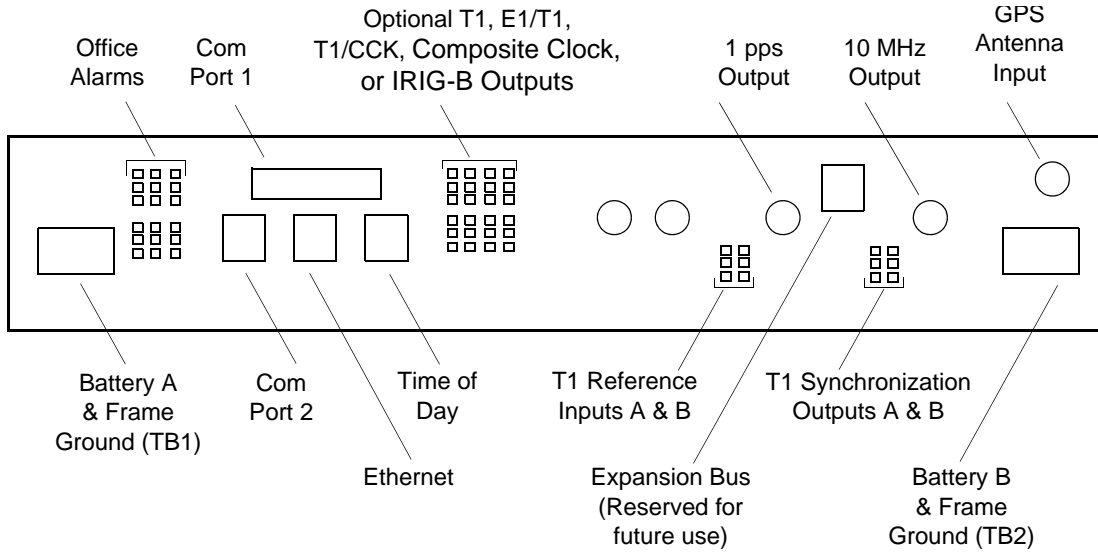
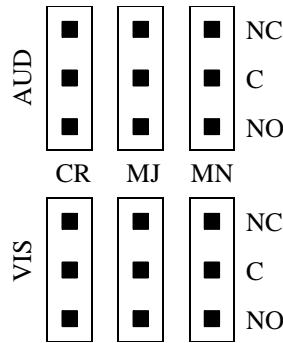
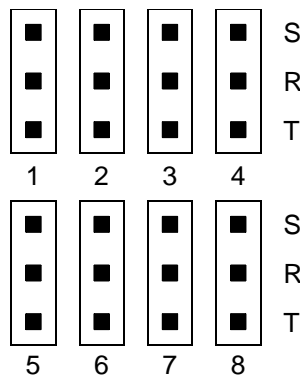
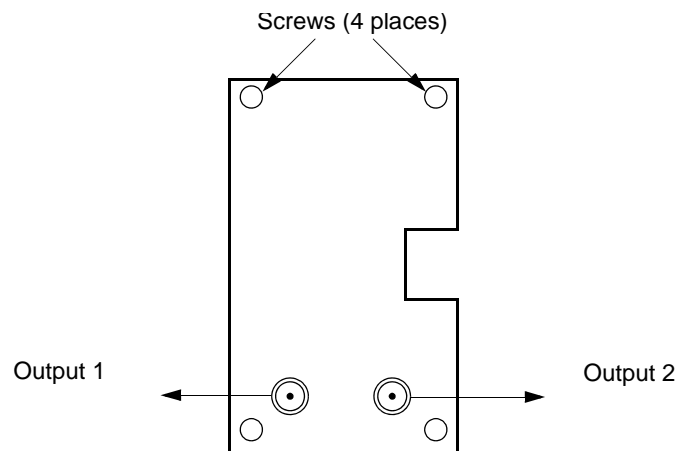

Figure 3-17. Rear Panel
Figure 3-20. Alarm connections
Figure 3-21. OPTIONS I/O Wire-Wrap Pin Connections
Figure 3-22. IRIG-B TOD BNC Output Connections
Figure 3-17 shows the rear panel connectors. Figure 3-18 shows the front panel connector. All connectors can be located using these illustrations.
Frame ground connections are made on power terminal blocks TB1 and TB2. Refer to Figure 3-17 for the location of the terminals on the rear of the shelf, and refer to Figure 3-19 for the terminal connections.
Power connections are made on power terminal blocks TB1 and TB2. Refer to Figure 3-17 for the location of the terminals on the rear of the shelf, and refer to Figure 3-19 for the terminal connections.
Connect the TimeSource 3500 alarms to the office alarm panel at the critical (CR), major (MJ), and minor (MN) wire-wrap pins. See Figure 3-17 for the location of the alarm pins, and Figure 3-20 for the connections.
Use the supplied 90 degree adapter to connect the coaxial cable from the lightning suppressor or IF downconverter to the TNC connector labeled GPS ANT. Refer to Figure 3-17 for the connector location.
Connect up to eight optional T1 outputs at the OPTIONS I/O wire-wrap pins. See Figure 3-17 for the connector location, and Figure 3-21 for the connections.
Connect up to eight optional mixed E1/T1 outputs at the OPTIONS I/O wire-wrap pins. Refer to Figure 3-17 for the connector location and Figure 3-21 for the connections.
Connect up to eight optional mixed T1/CCK outputs at the OPTIONS I/O wire-wrap pins. Refer to Figure 3-17 for the connector location and Figure 3-21 for the connections.
Connect up to eight optional composite clock outputs at the OPTIONS I/O wire-wrap pins. Refer to Figure 3-17 for the connector location and Figure 3-21 for the connections.
Connect one or two optional IRIG-B TOD outputs at the OPTIONS I/O wire-wrap pins. See Figure 3-17 for the connector locations, and Figure 3-22 for the connections.
2. Secure the adapter onto the shelf, using the four screws integral to the adapter (see Figure 3-22).
Connect a user-supplied RG-58 coaxial cable from the connector labeled TTL PPS to the equipment that will use the 1 pulse-per-second TTL output signal. See Figure 3-17 for the connector location.
Connect a user-supplied RG-58 coaxial cable from the connector labeled 10 MHz to the equipment that will use the 10 MHz output signal. See Figure 3-17 for the connector location.
Connect a user-supplied Ethernet cable from the network to the 10base-T Ethernet connector labeled E-NET. See Figure 3-17 for the connector location, and Table 3-1 for the connector pinouts.
Connect a time of day (TOD) output at the female RJ-45 connector labeled TOD. See Figure 3-17 for the connector location, and Table 3-2 for the connector pinouts.